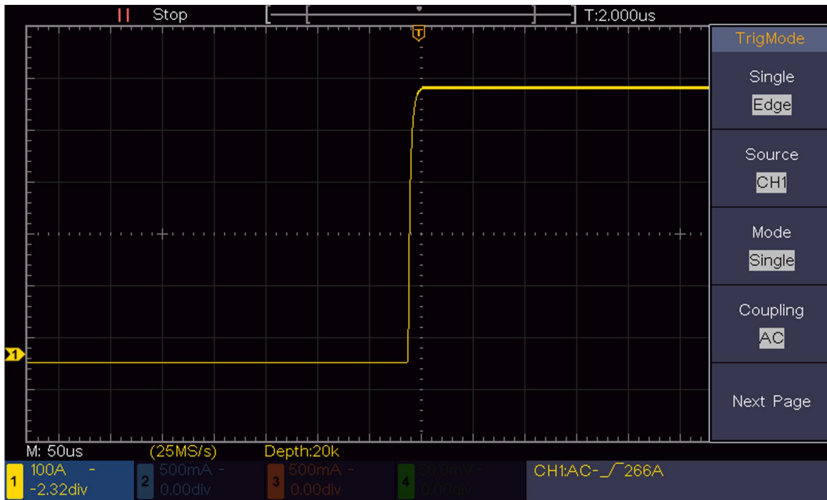

Figure 6-3 Capturing a Single Signal
(11)Check the Trigger State Indicator on the top of the screen, if it is not Ready, push down the **Run/Stop** button and start acquiring, wait for trigger to happen. If a signal reaches to the set trigger level, one sampling will be made and then displayed in the screen. By using this approach, a random pulse can be captured easily. For instance, if we want to find a burst burr of high amplitude, set the trigger level to a slightly higher value of the average signal level, push the **Run/Stop** button and wait a trigger. Once there is a burr occurring, the instrument will trigger automatically and record the waveform during the period around the trigger time. By turning the **Horizontal Position** knob in the horizontal control area in the panel, you can change the horizontal triggering position to obtain the negative delay, making an easy observation of the waveform before the burr occurs (see *Figure 6-3*).